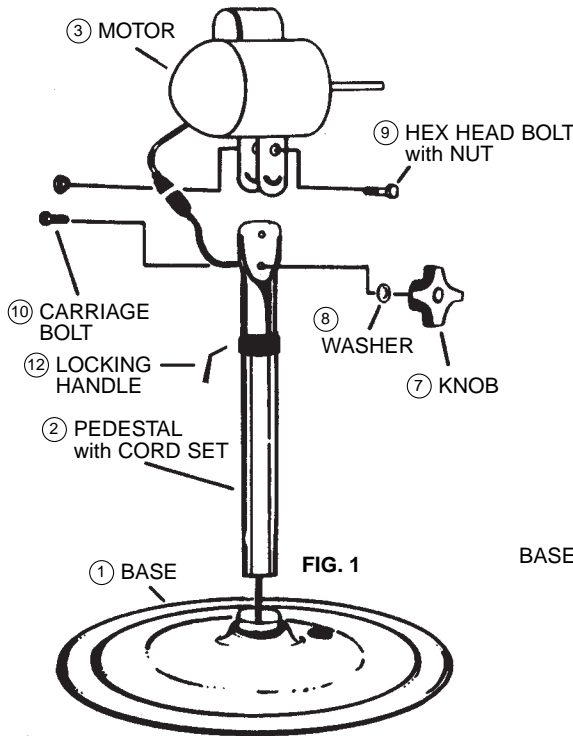
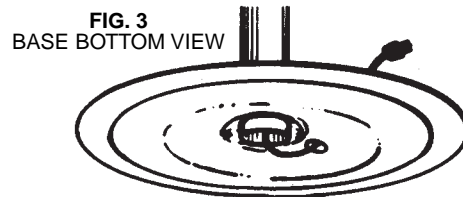

FIG. 1
FIG. 3
**STEP 2.** Insert the electrical cord through the center hole of the base and pull through. Place pedestal (2) into the base making sure the pedestal has "bottomed out" (Fig. 1). Insert cord through grommeted hole in the base and pull cord through (Fig. 3).
**STEP 3.** Place one flat washer on each motor stud, place rear guard (4) on studs. Place one each of the remaining flat washers on each stud, place one hex head lock nut on each stud and tighten.
**STEP 4.** Install fan blade (6) on motor shaft, secure with set screw on fan blade hub. **NOTE:** Make certain the set screw is aligned to flat part of motor shaft, and blade hub is flush with the motor shaft end. Insure set screw is on motor side of blade.
**STEP 5.** Install front blade guard cover (5) by engaging bottom hooks over outside of rear blade guard (4). By depressing outside ring of rear blade guard, remaining hooks on front blade guard cover can be engaged.
**STEP 6.** Attach motor (3) to top of pedestal using hex head bolt (9) with nut. Tighten nut only enough to allow motor to tilt with slight effort. Insert carriage bolt (10) and attach washer and knob (7) (Fig. 1).